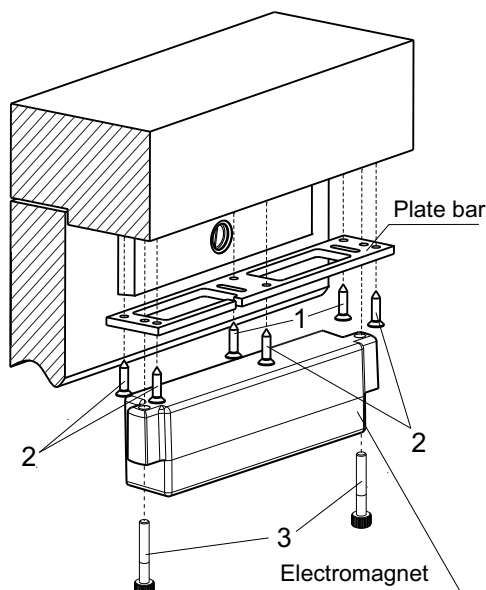

Figure 2 – Lock mounting using plate bar
3. Fix the plate bar / angle bar on the door frame with screws (1) as on Figures 2, 3. Do not fasten the screws very tight, so that you could further adjust the plate bar / angle bar position, if needed.
4. Fix the electromagnet on the plate bar / angle bar with screws (3).